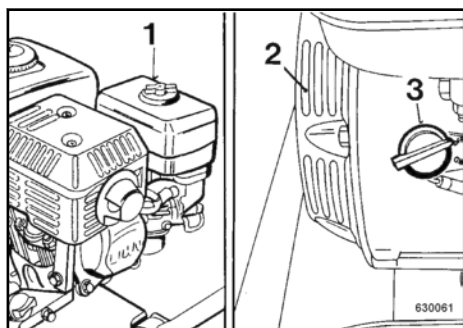

Fig. 33
Do not guide the water jet directly into air filter/carburettor (1) ↘ Fig. 33, starter/air intake (2) and the ignition switch (3).